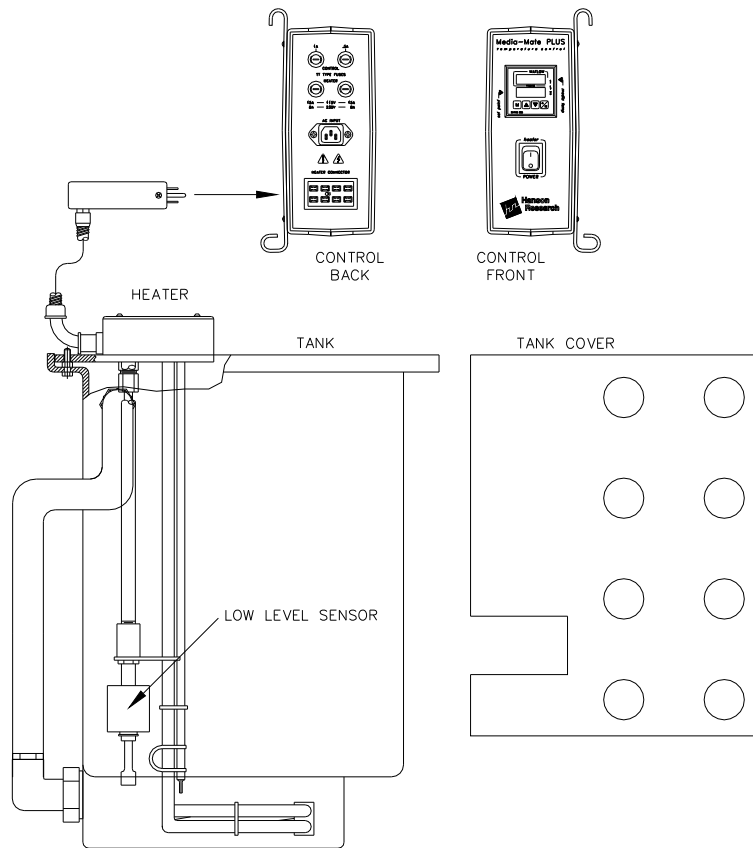

Figure 4-1
Throughout this manual, reference is made to various components by name. Figures are provided to assist in the visual identification of these components (see Figure 4-1).
2. Heater installation is done by setting the heater plate over the two screw pegs on the lip of the tank. This is the only position for the heater. Connect the Heater plug into the connector labeled "HEATER" on the back panel of the control (see Figure 4-1).